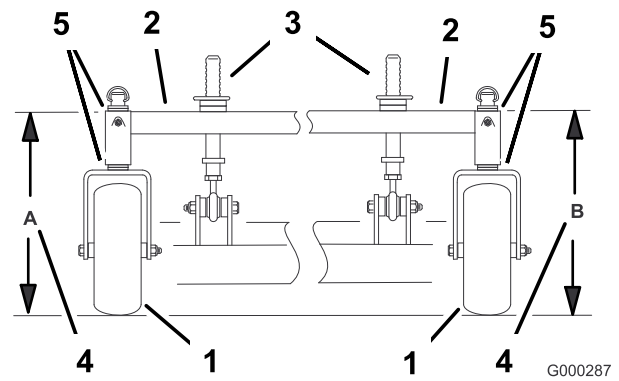

Figure 55
4. Measure carrier frame height at location A (Figure 55).
5. Measure carrier frame height at location B (Figure 55).